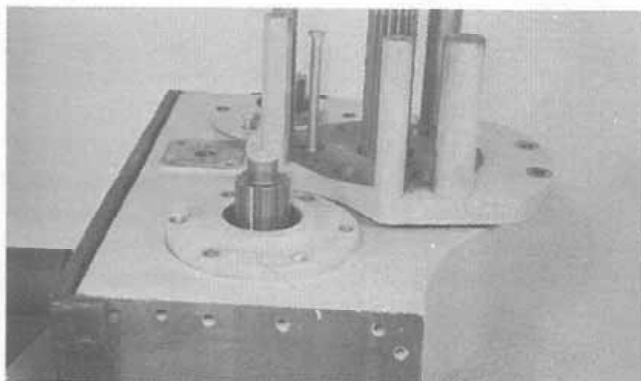

Figure 24:
17. Align and install the remaining front bearing cap and brake plate/bearing cap assembly (Fig. 24).